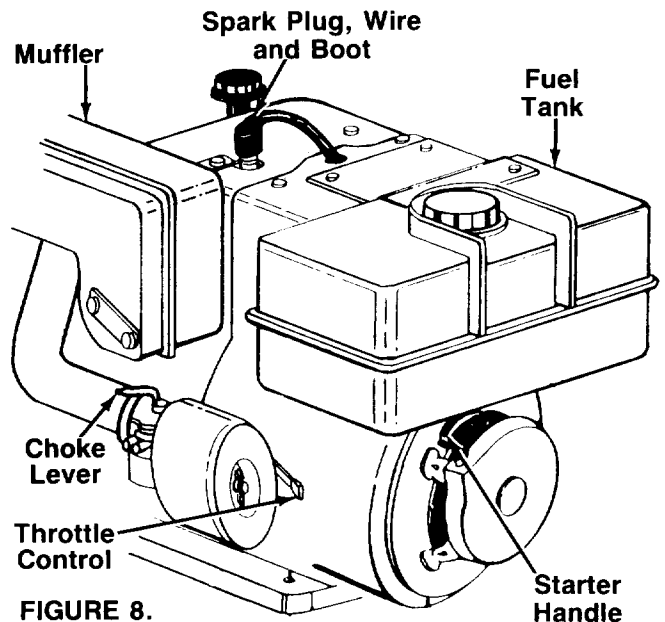

FIGURE 8.
- Remove fuel cap and fill fuel tank. See figure 8. Use fresh, clean, unleaded automotive gasoline. Capacity is one gallon. Replace fuel cap.
- Attach spark plug wire and rubber boot to spark plug. See figure 8.
- Place the throttle control lever in FAST position. See figures 8 and 9.
- Grasp starter handle (see figure 8) and pull rope out slowly until engine reaches start of compression cycle (rope will pull slightly harder at this point). Let the rope rewind slowly.